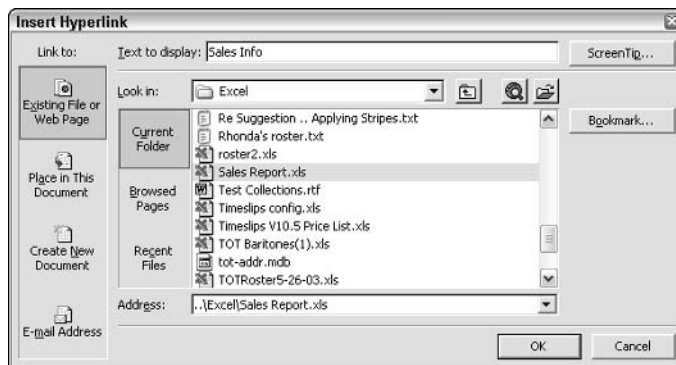

Figure 16-24: Enter a file path and name, or a URL, to set up the hyperlink.
2. Choose Insert⇨Hyperlink, or click the Insert Hyperlink button on the Standard toolbar. The Insert Hyperlink dialog box appears, as shown in Figure 16-24.